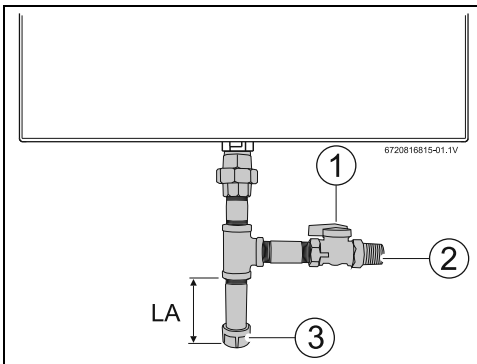

Fig. 24 Gas connection
- ▶ National Fuel Gas Code requires that a sediment trap (drip leg) be installed on gas appliances not so equipped. The drip leg must be accessible and not subject to freezing conditions. Install in accordance with the recommendations of the serving gas supplier, see fig. 24.